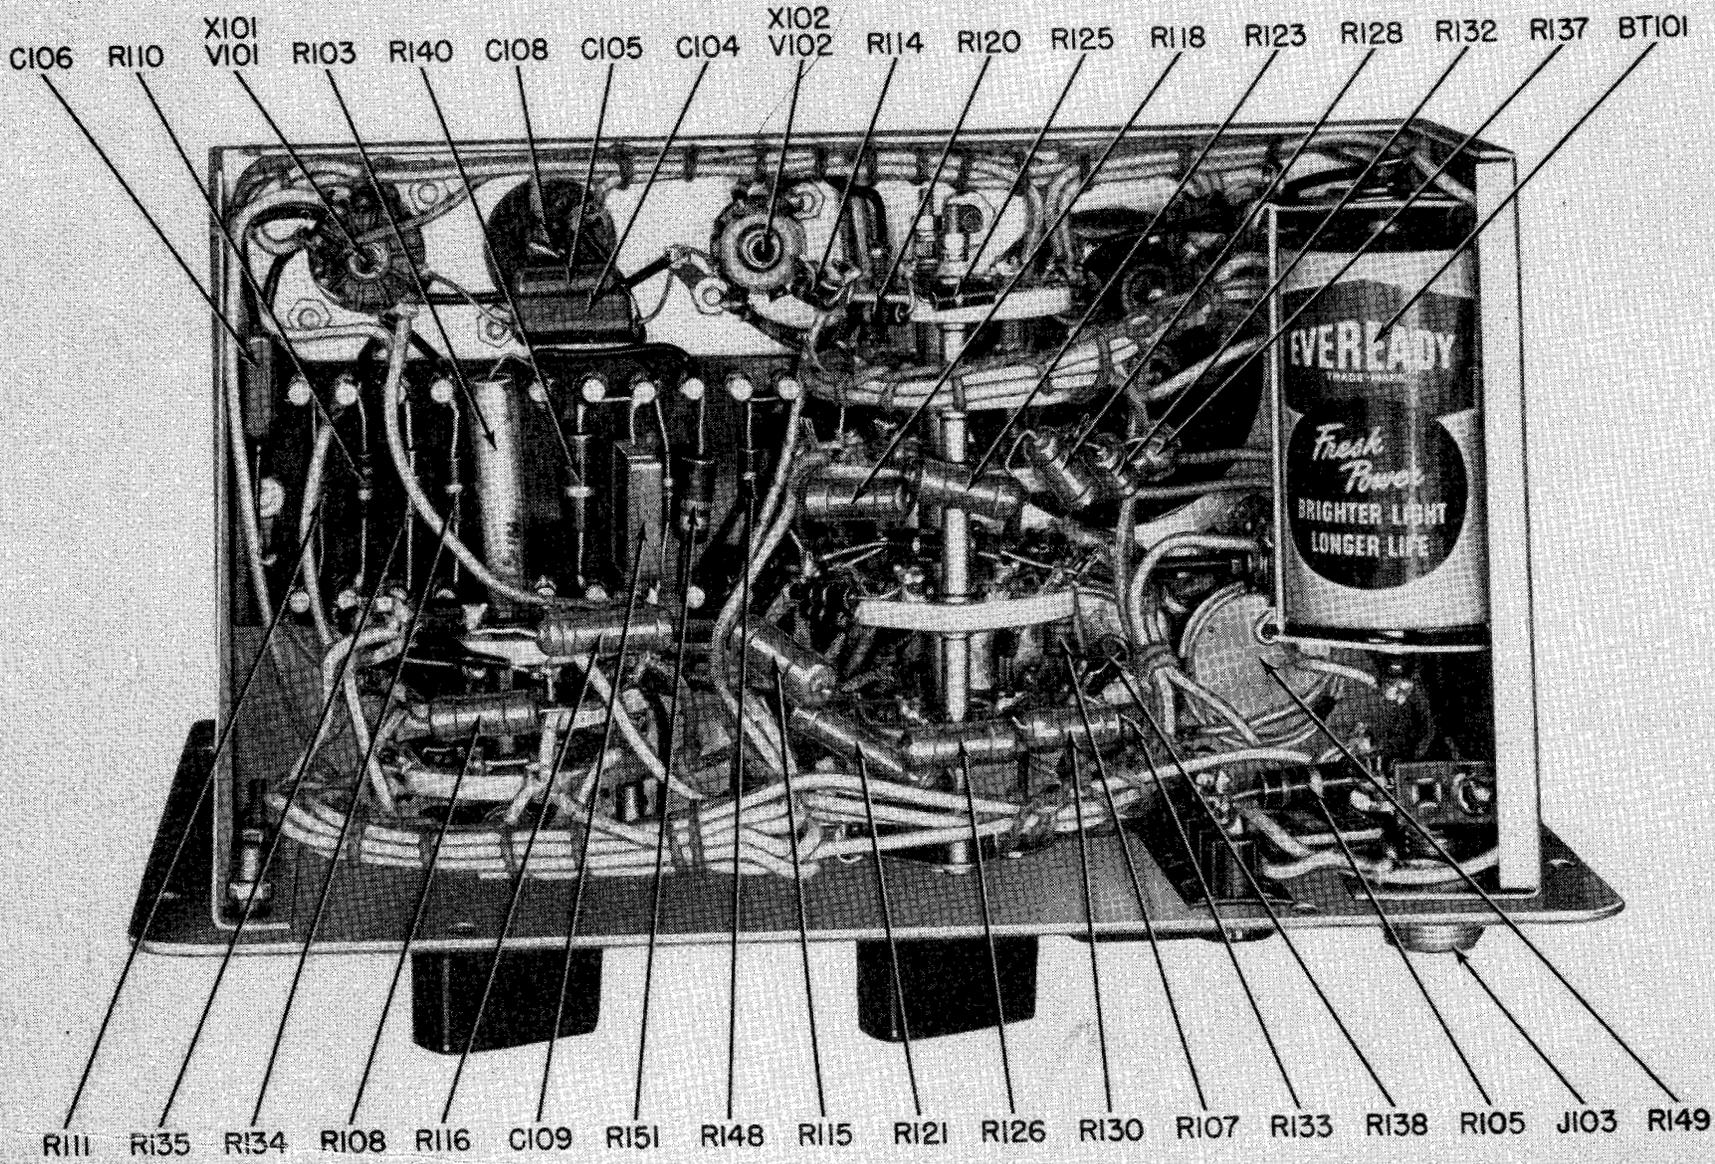

Figure 6-4. Multimeter ME-25A/U, Case Removed, Bottom View
- (1) Remove the case from the chassis in accordance with paragraph 1. (See Figure 6-4)
- (2) Remove the dry battery from its clamps.
- (3) Replace the dry battery with a fresh cell, taking care to maintain the correct polarity.